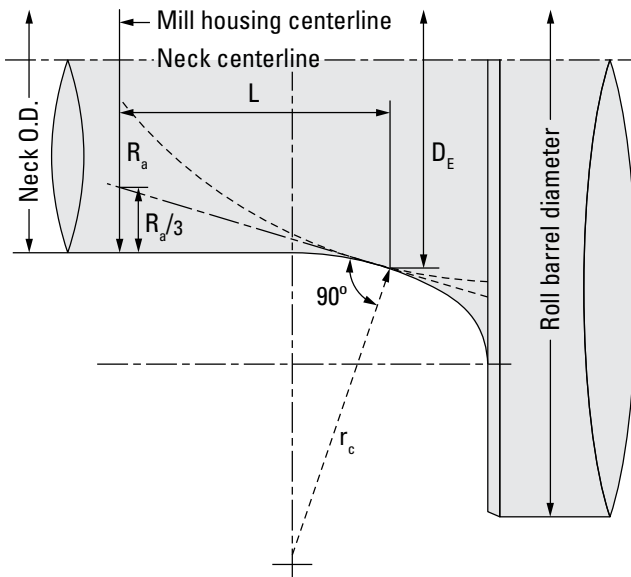

Fig. 83. Graphic solution.
Calculating maximum roll neck bending stress: Fig. 83 shows the working diameter, D_E , and the working length, L , of the neck, which are used in calculating maximum bending stress. An equal stress curve is plotted to pass from $R_a/3$ to be tangent to the major radius (r_c) of the fillet. The equivalent neck diameter (D_E) and effective working length of the neck (L) can then be conveniently determined by the graphical solution (fig. 83).